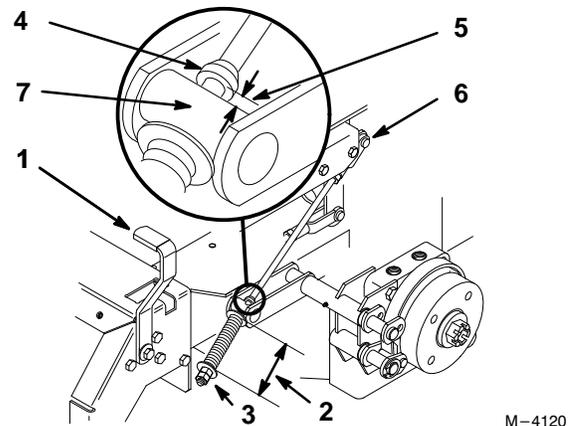

Figure 47
2. Measure the length of the spring. Measurement should be 2.75" (70 mm) between washers (Fig. 47).
3. If adjustment is necessary, loosen the jam nut below the spring and tighten the nut directly below the yoke (Fig. 47). Turn the nut until the correct measurement is obtained. Tighten the two nuts together and repeat on opposite side of unit.
6. Measure the distance between the trunnion roller and the collar on brake rod. Measurement should be 3/16"-1/4" (5-7 mm) (Fig. 47).
7. If adjustment is necessary, loosen the jam nut directly below the yoke. Turn the bottom adjusting nuts until the correct measurement is obtained (Fig. 47). Tighten jam nut at yoke